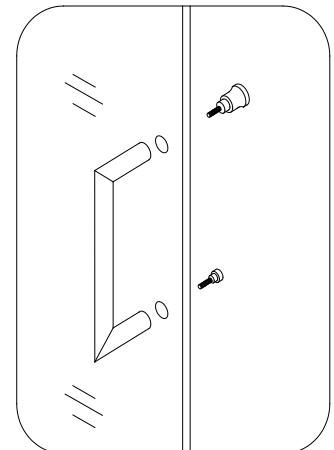

Fig 11
**10.** Mount the **Handle (02)** to the **Glass door (#01)**.
**See Fig. 11 for details.**